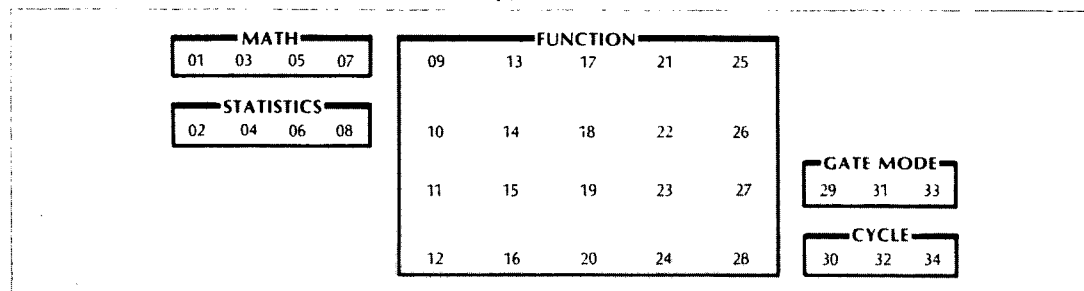

Figure 4-3. Keyboard Check Key Assignments
- 1) The "+0" EXPONENT will light and a 2 digit display will actively correspond to the chart below in Figure 4-3.